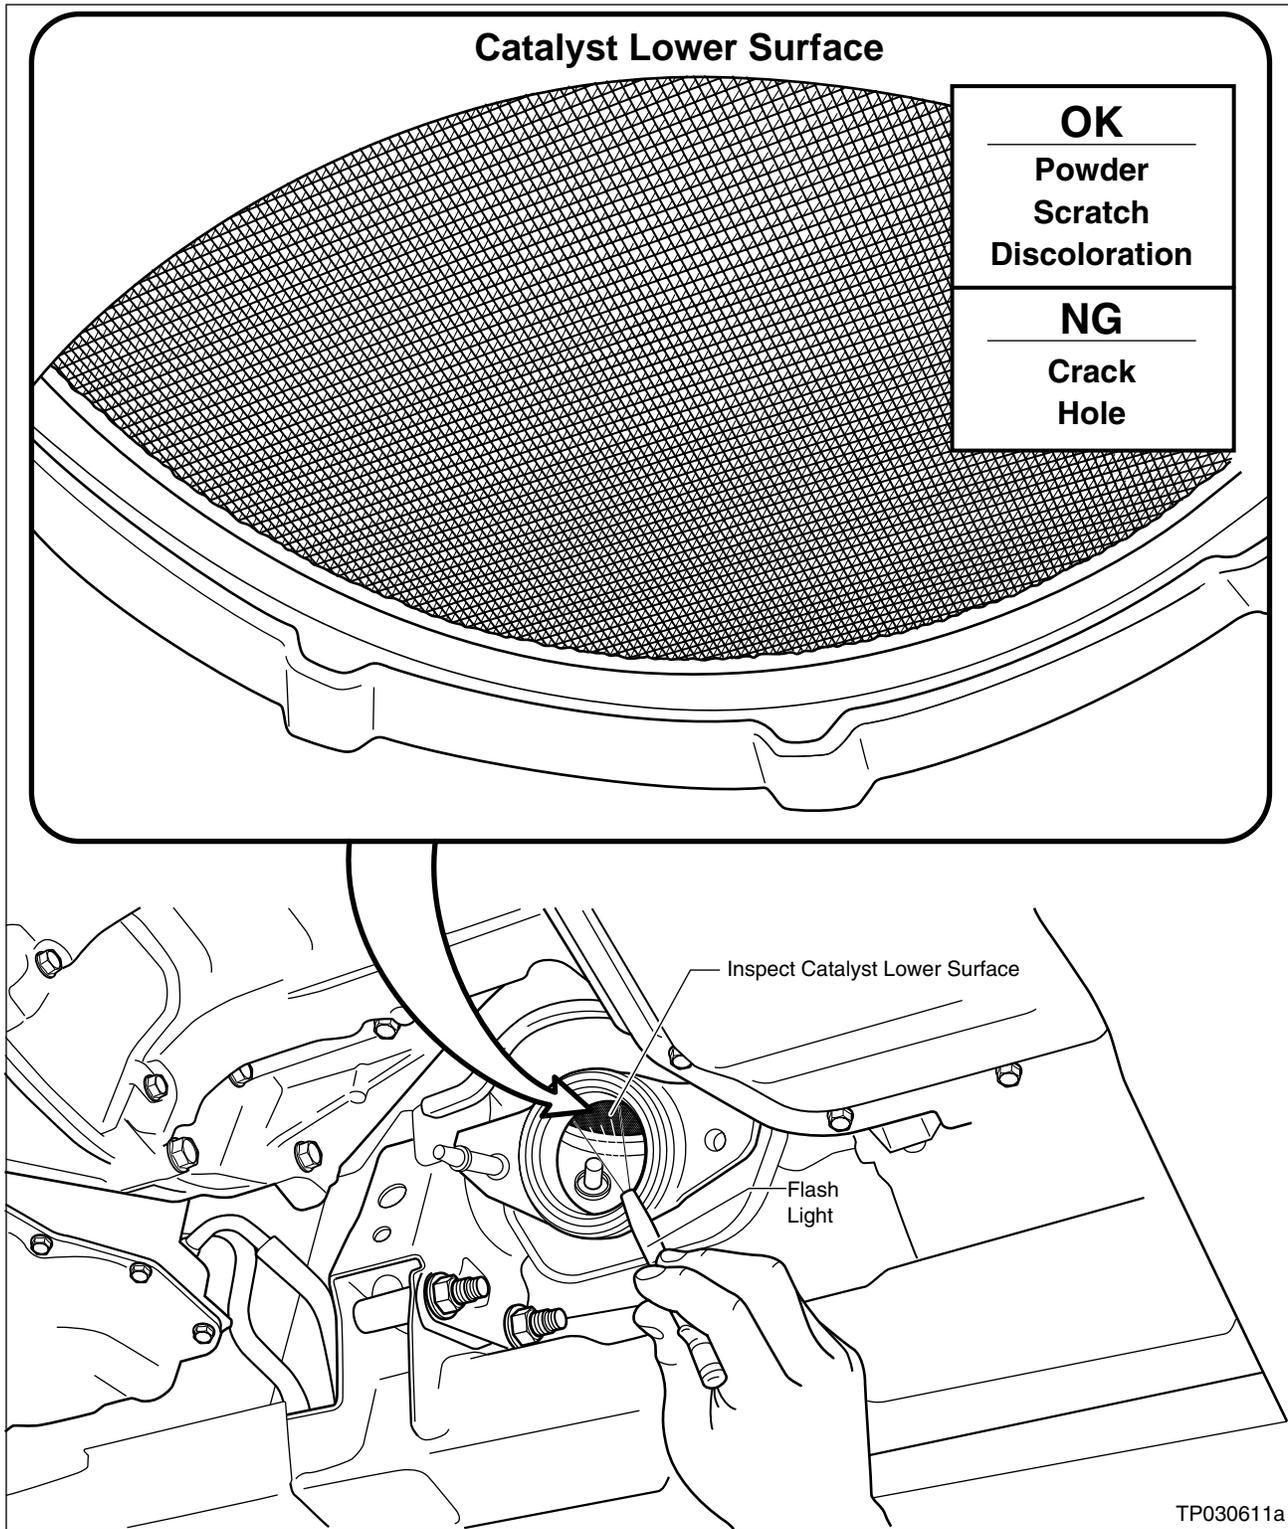

Figure D4
5. Inspect the entire catalyst lower surface condition as shown in Figure D4.